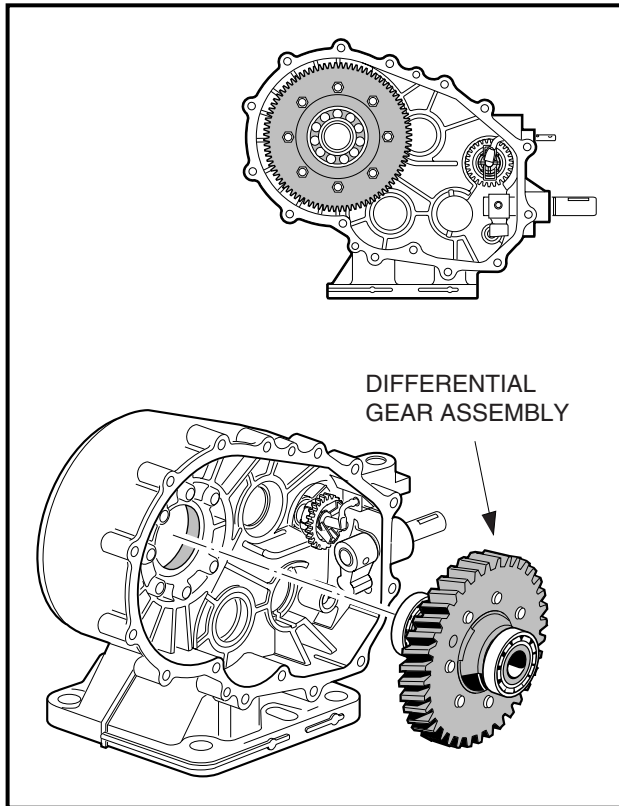

Figure 7-49 Differential Gear Assembly
- 7.1. Stand the left (driver) side case on the mounting plate, then install the differential gear case assembly (**Figure 7-49, Page 7-26**). Do not seat the assembly in the bore. Instead, insert it far enough that it will not fall out.